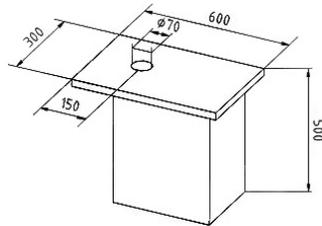

Figure 1
- ◆ After unpacking, the tester shall be placed on a stable bench with levelness deviation less than 1 mm/m. A hole shall be drilled at an appropriate location on the bench (see figure 1) to enable the lifting screw to operate properly.